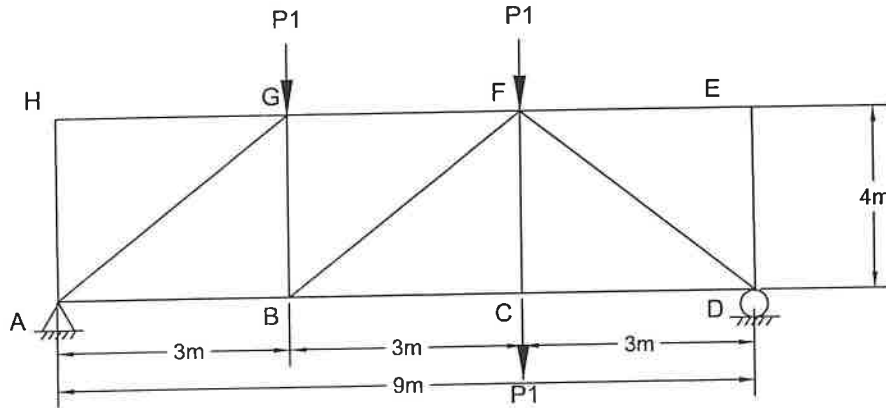

FIGURE A1
- A1. Referring to figure A1, The truss shown is subject to the service loads reported in the figure. Design the compression member FG out of back to back angles. Also provide the space (as appropriate) for the interconnection of the angle to achieve the design forces. You may assume a 10mm gap between angles.